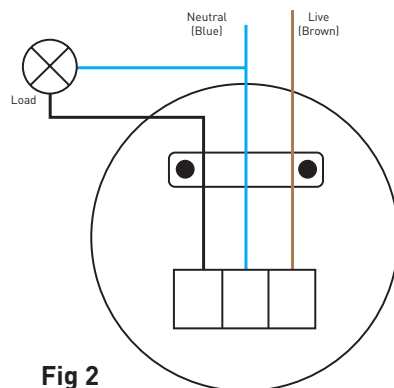

Fig 2
- Wire terminals on the PIR ensuring correct polarity is observed (see Fig 2)